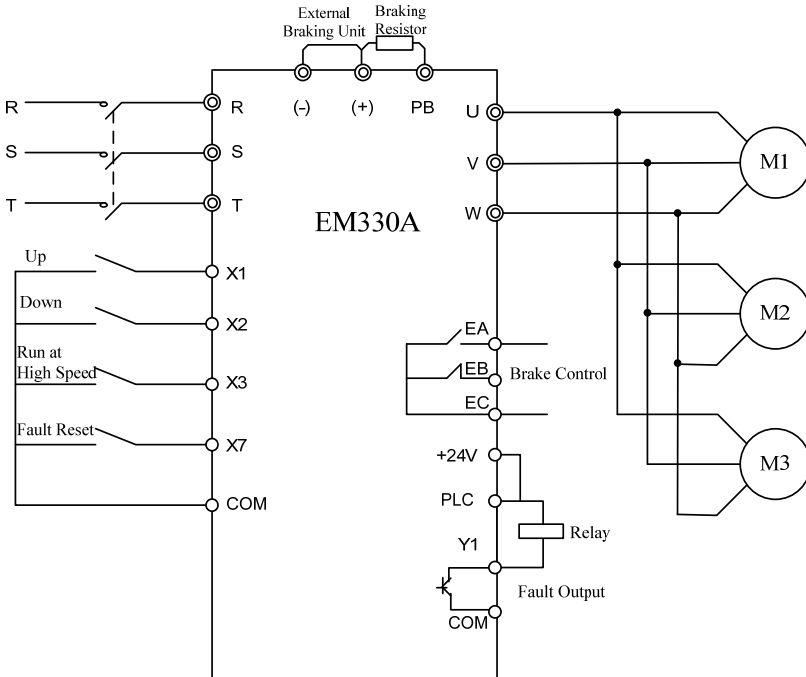

Figure 12-1 EM330A Wiring of Hoist Applications
2. When EM330A selects F4-28 as tower crane hoist application macros, please configure terminals Xi, Y1 and R1 as per Figure 12-1.